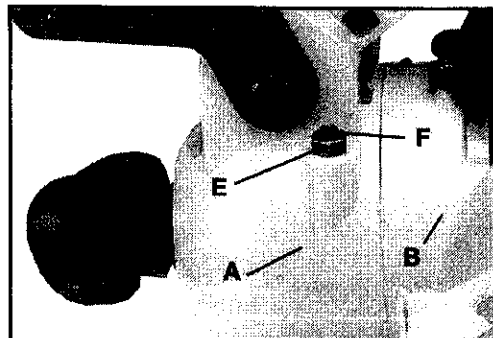
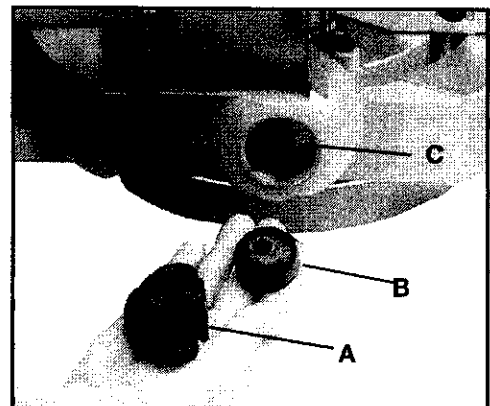

Fig. 30
Fig. 31
8. If an adjustment is necessary, loosen the bevel lock handle. Loosen the locknut (E) Fig. 30, and turn the adjusting screw (F), with wrenches provided, until the blade is 45 degrees to the table. Tighten locknut (E) and bevel lock handle.
After a long period of time, it may become necessary to adjust the sliding fit between the trunnion (A) Fig. 30, and the bevel bracket (B) by tightening adjusting nut (C), Fig. 31, located underneath the bevel lock (A), Fig. 31, and collar (B) Fig. 31.